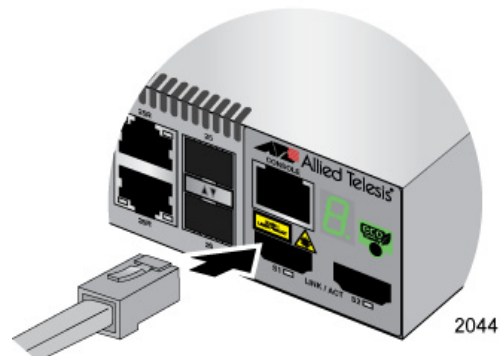

Figure 30. Connecting the Management Cable to the RJ-45 Terminal Port on the Switch
1. Connect the RJ-45 end of the management cable included with the 8100S Switch to the Console port on the front panel of the switch, as shown in Figure 30 on page 83.